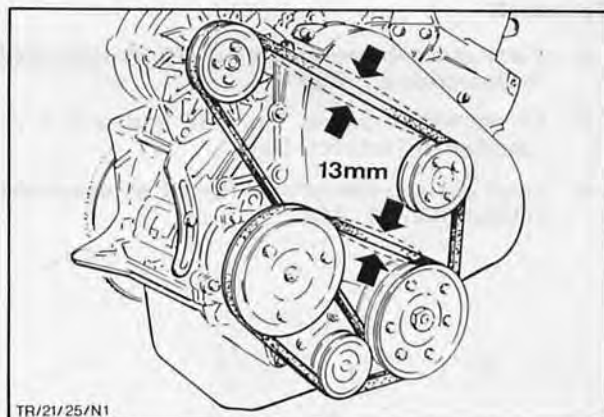

Fig. 136. Adjust alternator and vacuum V-belt tension
20. Position alternator and vacuum pump V-belts and adjust tension in such a manner that free play at a point midway between pulleys is 13 mm (0.5 in), Fig. 136.